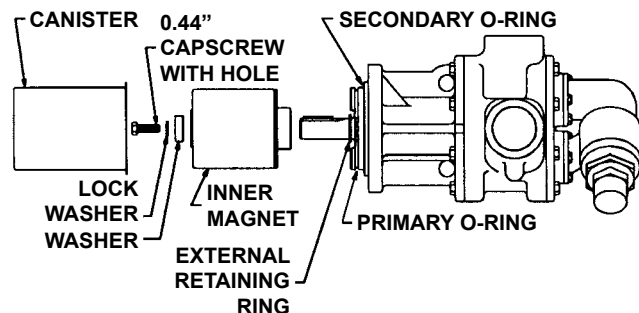

FIGURE 16
1. Inspect magnets for any steel objects attached to the magnets. Remove any foreign material. Place external retaining ring and key on pump shaft. Slide inner magnet assembly onto shaft so it butts against retaining ring. Install washer, lock washer and capscrew to secure magnet (See Figure 16). Insert a brass bar through a port between two rotor teeth and tighten capscrew.